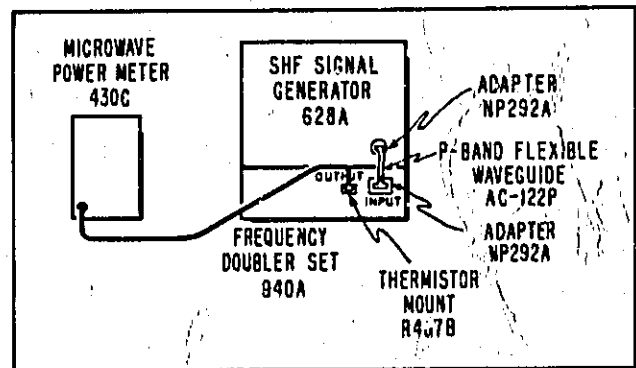

Figure 5. Typical Meter Adjustment Setup
(1) Set up the equipment as indicated in figure 5.